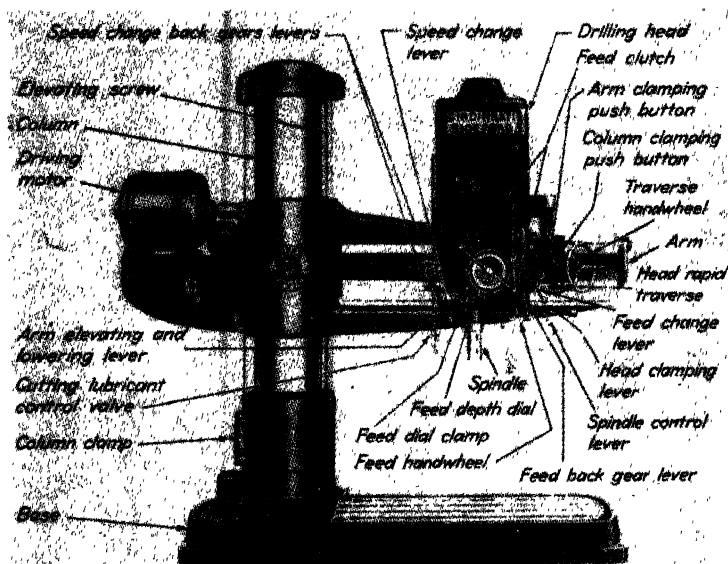

Fig. 7-6. A superservice radial drill press with the important parts identified. (The Cincinnati Bickford Tool Company)
**The Radial Drill.** This machine (Fig. 7-6) is especially useful when drilling several holes in the larger and heavier pieces. It has
locating the cutting tool over any point within a considerable area. Further, the arm may be raised or lowered to accommodate a wide range in heights of work. Various kinds and sizes of tables, plain and adjustable, are made which, when in use, are bolted to the base. Radial drills are classified as to size by the length of the arm. Figure 7-6 shows the important parts of the radial drill press.